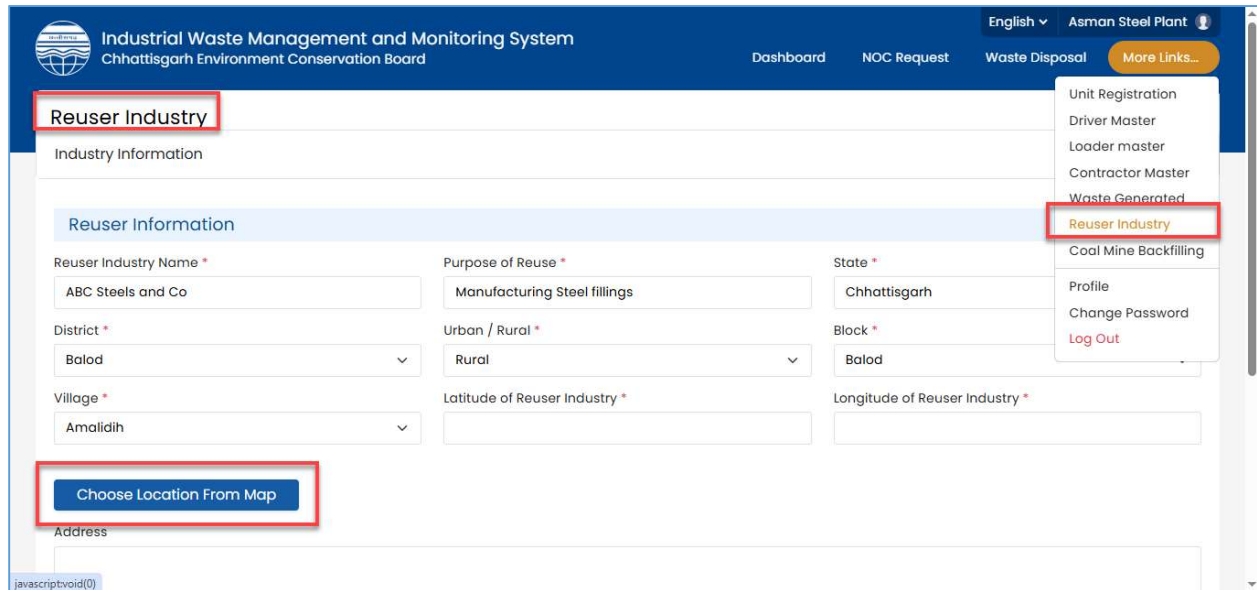

Figure 3-35 Reuser Industry Screen (2)
- Or, click on **Choose Location from Map** (refer **Fig 3-35**) to fetch the longitude and latitude details of the location directly from the map.